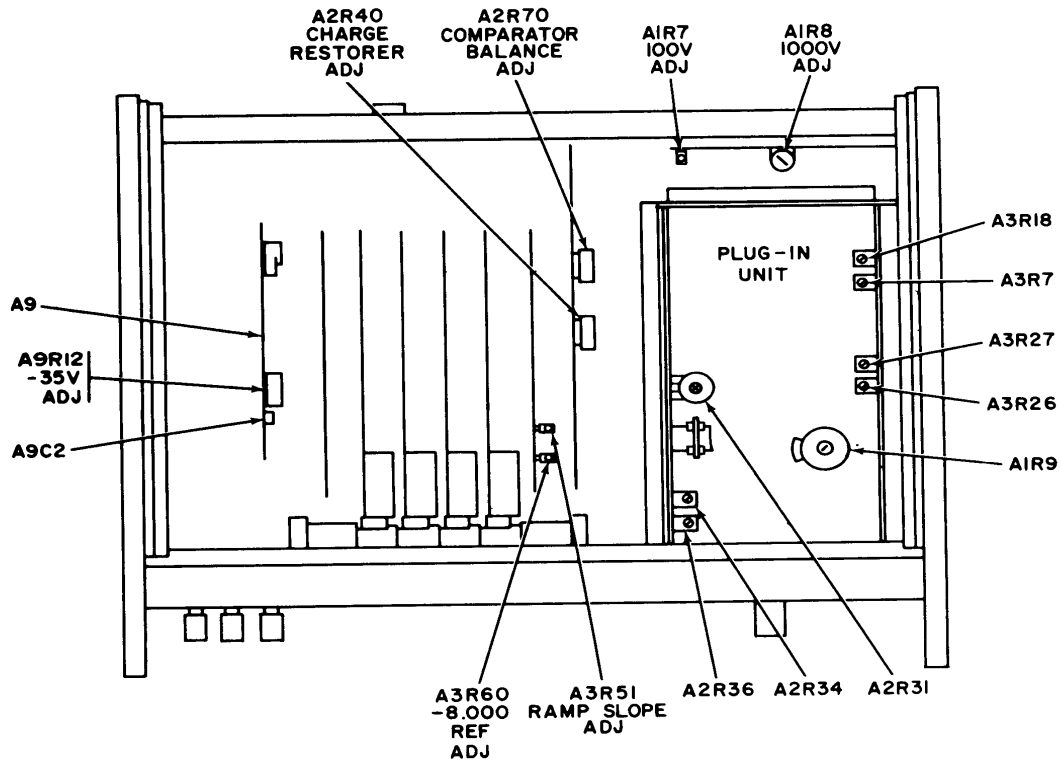

Figure 1. Digital voltmeter - top view.
(1) Position rear panel ZERO adjust to its mechanical midposition.
(2) Adjust A2R70 COMPARATOR BALANCE ADJ (fig. 1) to obtain an indication of 0.000 on TI (R).
- (4) Remove short from INPUT terminals.
Adjust A2R40 CHARGE RESTORER ADJ (fig. 1) to obtain an indication of 0.000 with + (plus) and - (minus) indicator lights flashing alternately (R).
- (8)
(9) Position INT CHECK 8000 adjustment to its (approximately five turns from fully cw (clockwise) position).
(10) ) to obtain an indication of +8.000 on TI (R). If required, fine adjust, using INT CHECK 8000 adjustment (R).
- (11) Set RANGE switch to 100 V.
- (12) Adjust dc voltage standard or electrical test set for an output of 80.00 V.
- (13) Adjust A1R7 100 V ADJ (fig. 1) to obtain an indication of +80.00 on TI (R).
- (14) Set RANGE switch to 1000 V.
- (15) Adjust dc voltage standard or electrical test set for an output of 800.00 V.
- (16) Adjust A1R8 1000 V ADJ (fig. 1) to obtain an indication of +800.0 on TI (R).
- (17) Reduce output of dc voltage standard or electrical test set and reverse lead connections.
- (18) Adjust dc voltage standard or electrical test set for an output of 8.000 V.
- (19) Set RANGE switch to 10 V
- (20) Adjust INT CHECK 8000 adjustment to obtain an indication of -8.000 on TI (R).
- (21) Press INT CHECK 8000 pushbutton and adjust A3 R60 -8.000 REF ADJ (fig. 1) to obtain an indication of -8.000 on TI (R). Release pushbutton.
- (22) Adjust dc voltage standard or electrical test set output to zero. Short TI INPUT terminals, using lead (B3).
- (23) Set RANGE switch to 100 MV and adjust front panel ZERO adjust to obtain an indication of 00.00 on TI (R).
- (24) Set RANGE switch to 1000 MV and adjust A2R31 (fig. 1) to obtain an indication of 0000 (R).
- (25) Remove short installed in (22) above and connect dc voltage standard or electrical test set for positive output.
- (26) Adjust dc voltage standard or electrical test set for an output of 800.0 mV.
- (27) Adjust A2R36 (fig. 1) to obtain an indication of 800.0 (R).
- (28) Connect dc voltage standard or electrical test set for negative output and repeat (26) above.
- (29) If required, readjust A2R36 and repeat (25) through (28) above until TI indicates between 799.9 and 800.1 for both positive and negative outputs of dc voltage standard or electrical test set.
- (30) Connect dc voltage standard or electrical test set for positive output.
- (1) Set RANGE switch to 10 K (ohms).
- (2) Set decade resistance standard to 10,000 ohms.
- (3) Adjust A3R18 (fig. 1) to obtain an average indication of 0.000 (R).